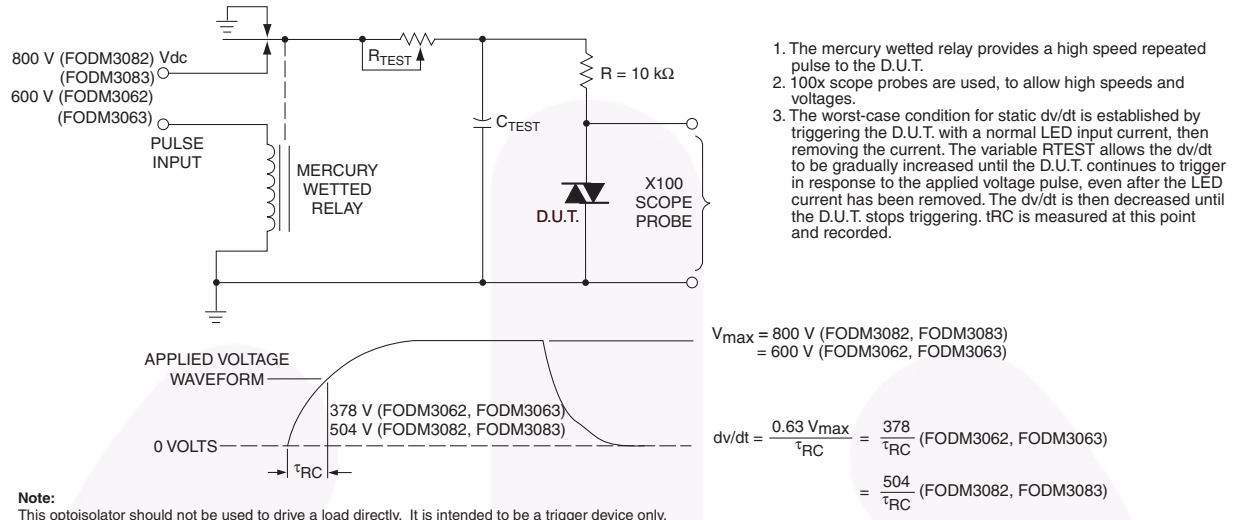

Figure 10. Static dv/dt Test Circuit
| dv/dt | Critical Rate of Rise of Off-State Voltage | $I_F = 0$ (Figure 10) ⁽³⁾ | All | 600 | | | V/ μs |
- This is static dv/dt. See Figure 10 for test circuit. Commutating dv/dt is function of the load-driving thyristor(s) only.